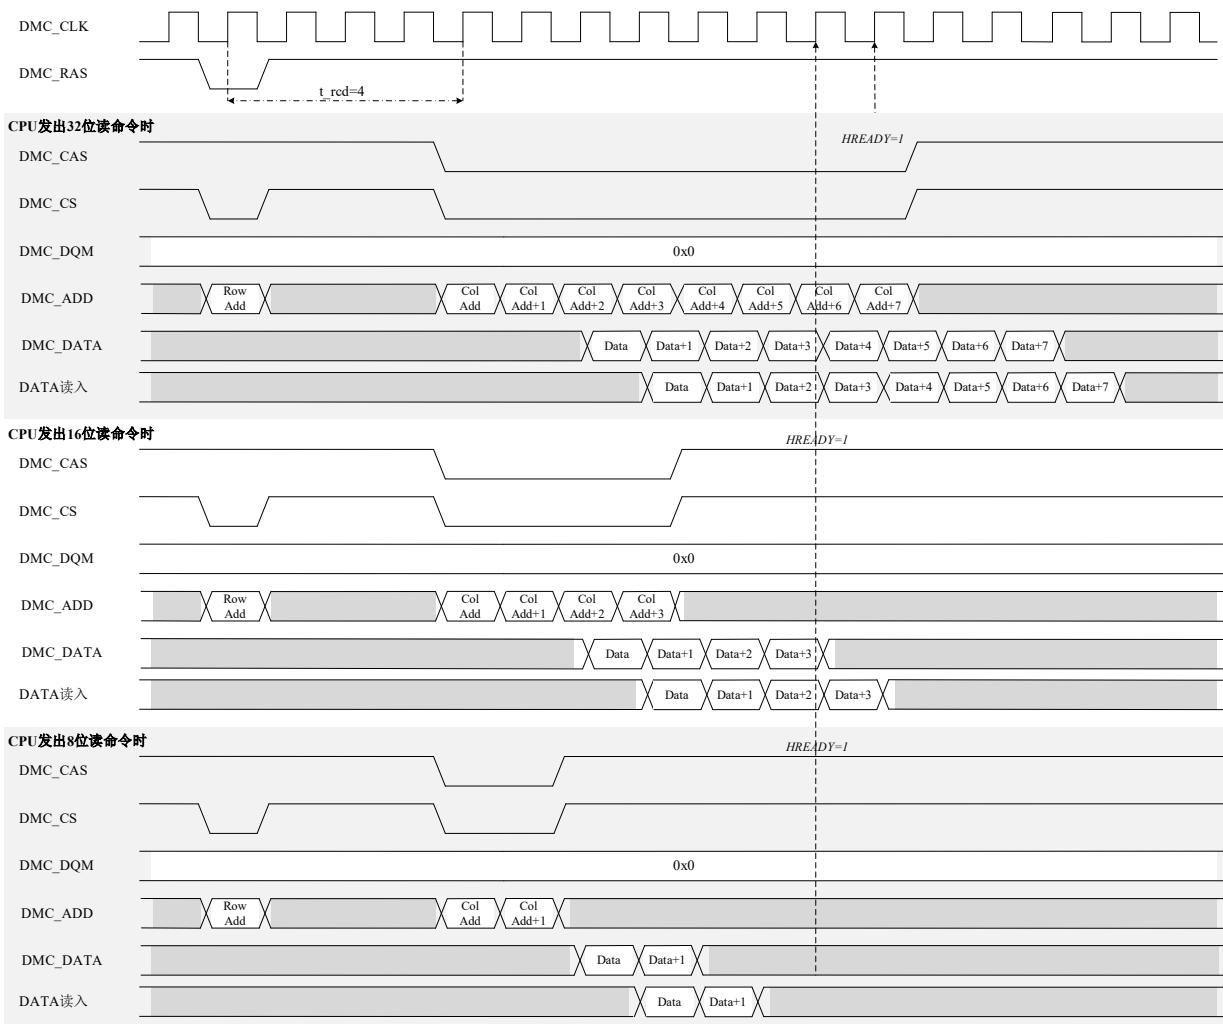

Figure 40-30 Basic timing of single read operation (16-bit width (DMCMW=00))
a) Figure 40-30 is the basic timing diagram of a single read operation.